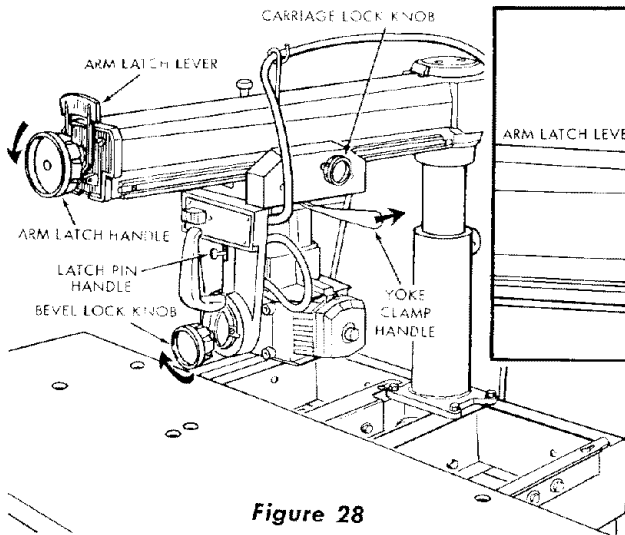

Figure 28
- c. Rotate the arm latch handle (knob) 1/4 turn counterclockwise. (See figure 28.) Make sure the yoke clamp handle and bevel lock knob are tight.
- e. Tighten the arm latch handle (figure 28). (Refer to paragraph entitled "Precision Indexing" for detailed instructions on indexing the radial arm.)